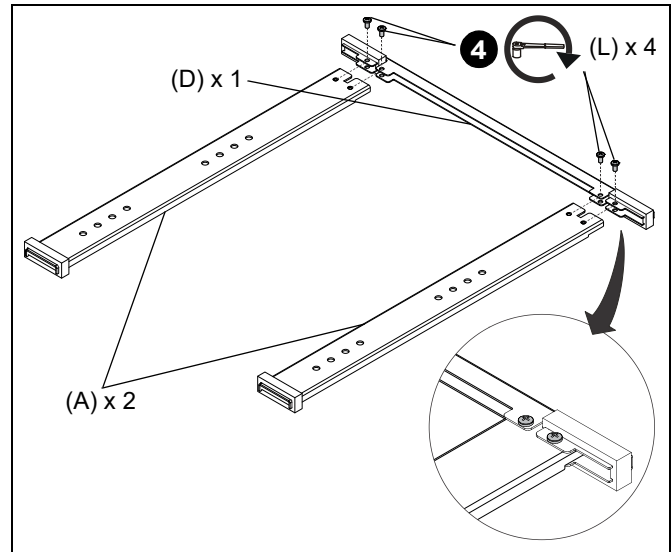

Figure 2
4. Install two vertical brackets (A) to the lower bracket (D) using four 10-24 x 3/8" Phillips screws (J). (See Figure 2)